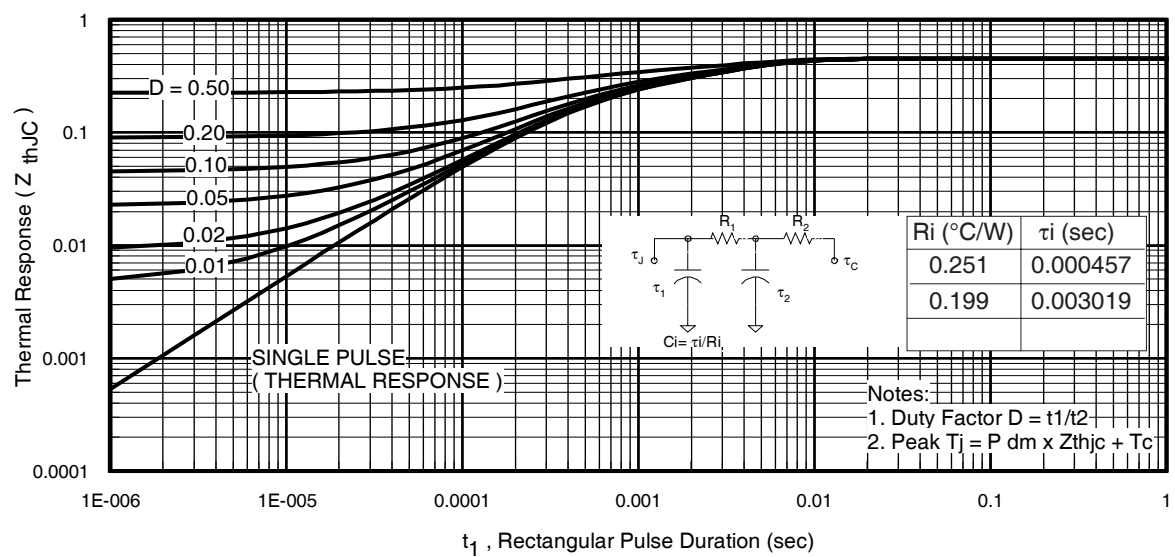
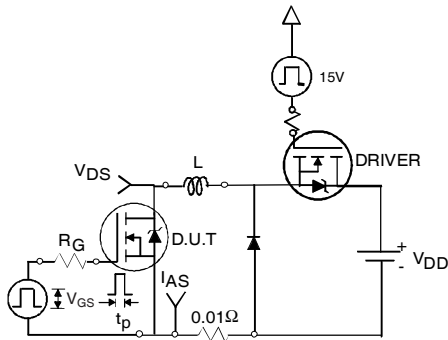

Fig 11. Maximum Effective Transient Thermal Impedance, Junction-to-Case
Fig 12a. Unclamped Inductive Test Circuit
- ① Repetitive rating; pulse width limited by max. junction temperature. (See fig. 11).
- ② Limited by T_{Jmax} , starting $T_J = 25^\circ\text{C}$, $L = 0.11\text{mH}$, $R_G = 25\Omega$, $I_{AS} = 75A$, $V_{GS} = 10V$. Part not recommended for use above this value.
- ③ $I_{SD} \leq 75A$, $di/dt \leq 340A/\mu s$, $V_{DD} \leq V_{(BR)DSS}$, $T_J \leq 175^\circ\text{C}$.
- ④ Pulse width $\leq 1.0\text{ms}$; duty cycle $\leq 2\%$.
- ⑤ $C_{oss \text{ eff.}}$ is a fixed capacitance that gives the same charging time as C_{oss} while V_{DS} is rising from 0 to 80% V_{DSS} .
- ⑥ Limited by T_{Jmax} , see Fig. 12a, 12b, 15, 16 for typical repetitive avalanche performance.
- ⑦ This value determined from sample failure population. 100% tested to this value in production.
- ⑧ This is applied to D²Pak, when mounted on 1" square PCB (FR-4 or G-10 Material). For recommended footprint and soldering techniques refer to application note #AN-994.
- ⑨ R_θ is measured at T_J of approximately 90°C .
3. Equation below based on circuit and waveforms shown in Figures 12a, 12b.
$Z_{thJC}(D, t_{av})$ = Transient thermal resistance, see figure 11)